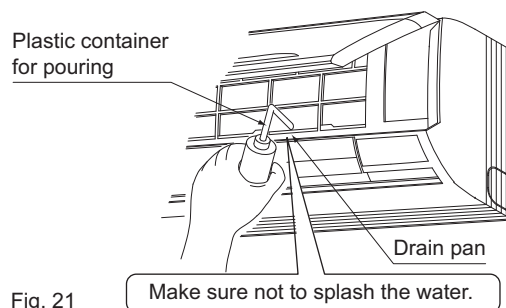

Fig. 21
(2) Make sure the drain works properly.
- After drain piping work is complete, perform a drain check by opening the front panel, **removing the air filter**, pouring water into the drain pan, and making sure water flows smoothly out of the drain hose. (Refer to Fig. 21)